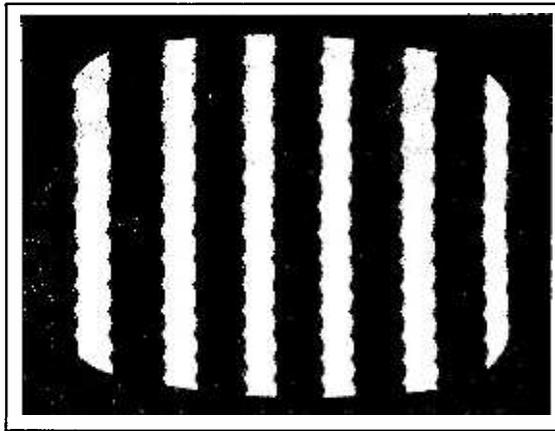

Figure 5-4. Picture Scalloping of Vertical Bar Test Signal
5. If the monitor shows any scalloping (see Figure 5-4), adjust the HEIGHT control to eliminate it.